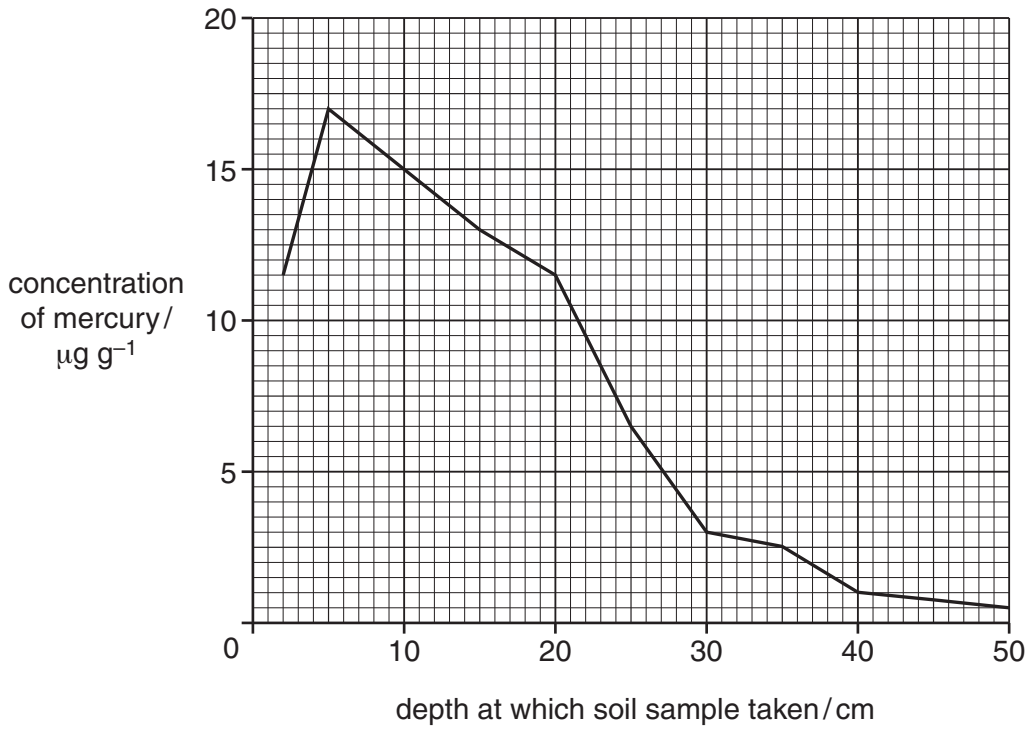

Fig. 2.1
- (iv) Soil samples at one site were taken from the surface and then at various depths. The mercury concentration of each sample was plotted in the graph, Fig. 2.1.
- 2 The graph, Fig. 2.1, shows a final concentration of $0.5 \mu\text{g g}^{-1}$ at a depth of 50 cm. The scientists said that this concentration was also the background level in soils away from the mercury pollution. Apart from the internet, state where they could find the information about background levels.